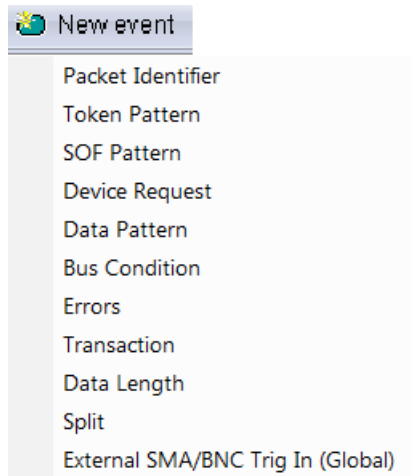

Figure 10.21: New Event Pop-up Menu
1. Click the **New Event** button at the left side of the toolbar to display the New Event pop-up menu (see Figure 10.21 on page 300).